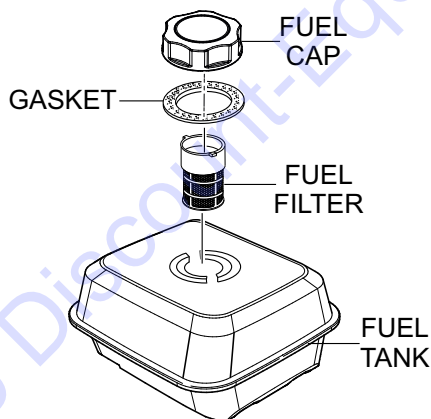

Figure 33. Fuel Strainer
- Next, remove, inspect and clean the fuel filter (Figure 33) with solvent.